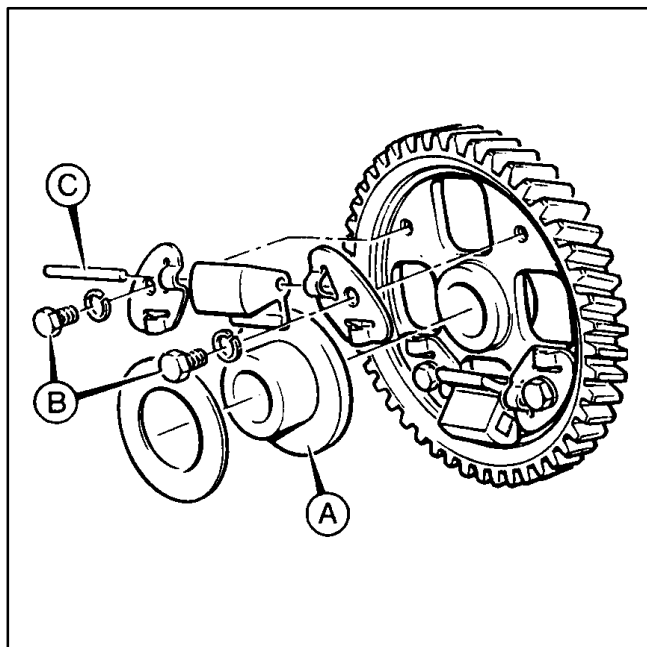

FIGURE 8-46. CHANGING GOVERNOR WEIGHTS
2. Remove the governor sleeve (Figure 8-46, Item A).
4. Loosen the weight retaining plate bolts (B).
7. Slide the weights and wear washers off of the pins (C).